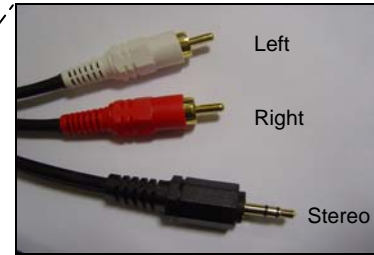
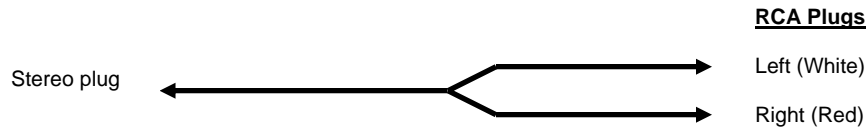

Figure 1.5 Stereo-RCA Cable
Figure 2b Stereo-RCA Cable
The evaluation kit does not include a stereo-RCA cable, as shown in figure 1.5, that would be required to connect between stereo jack of MP3 Player, Notebook/PC to the Left + Right RCA jacks of the evaluation boards, or vice-versa.
Step 7: Use the Stereo-RCA cable that has a 3.5mm stereo plug on one end, whereas the Left + Right RCA plugs on the other end, shown in figure 2b and figure 1.5.